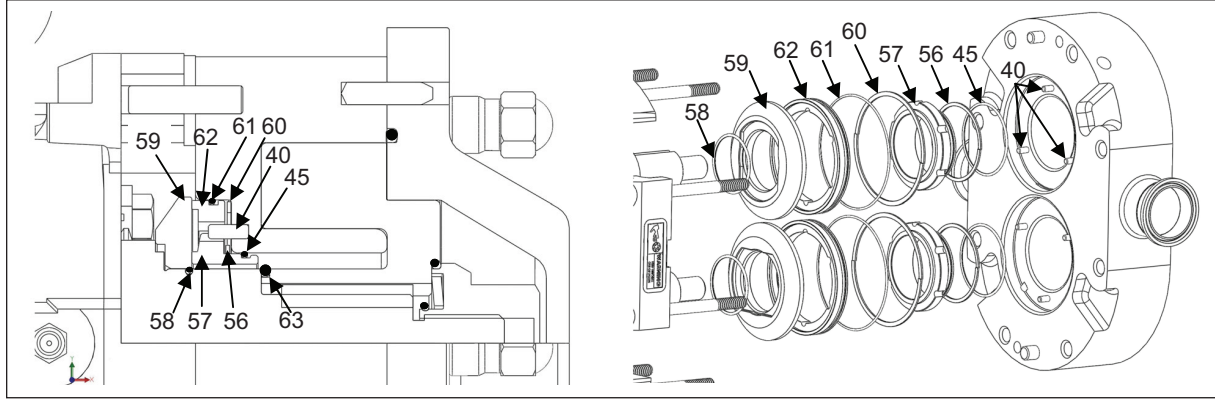

Figure 28. Double Mechanical Seal Disassembly
1. Remove both the inner and outer stationary seals from the pump body (*Figure 28*, items 57 and 62).